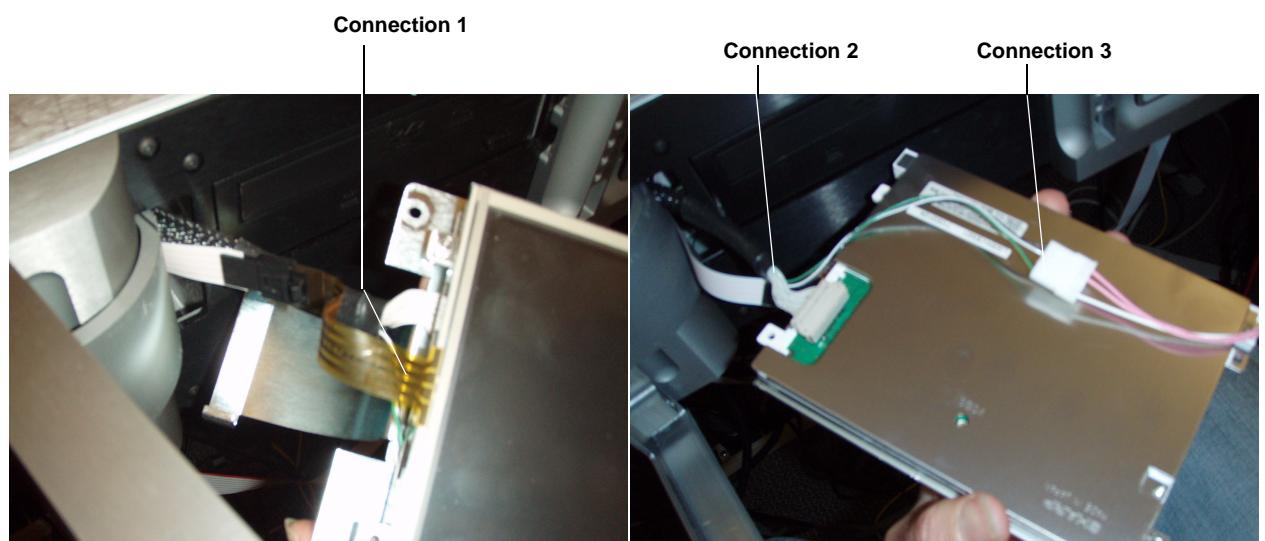
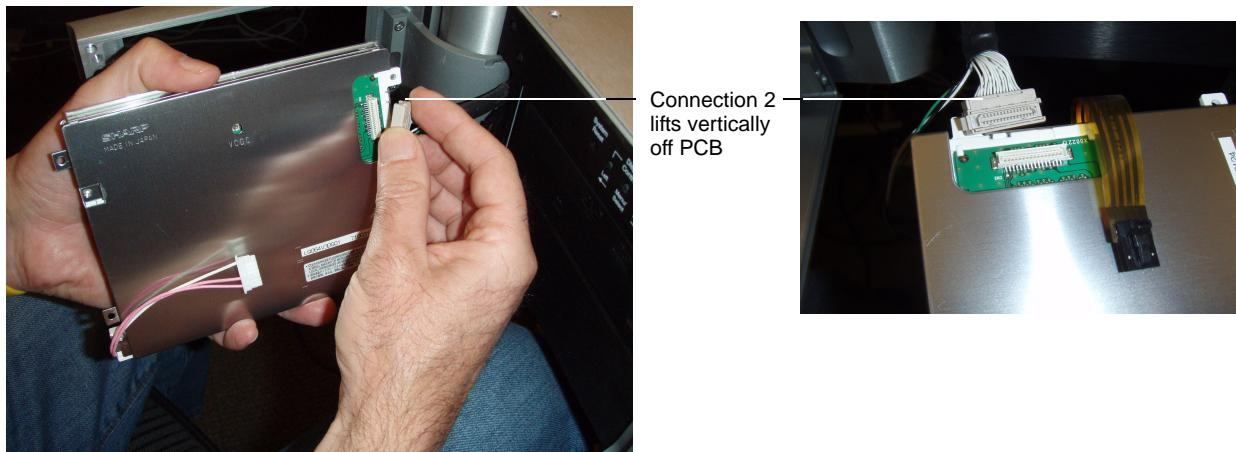

Figure 8 Disconnect Touch-Screen Connections
Figure 9 Disconnect PCB Connection
6. Disconnect the three connections to the touch screen, as shown in Figure 8. The gray printed circuit board (PCB) connection to the touch screen (connection 2) lifts off vertically, as shown in Figure 9.